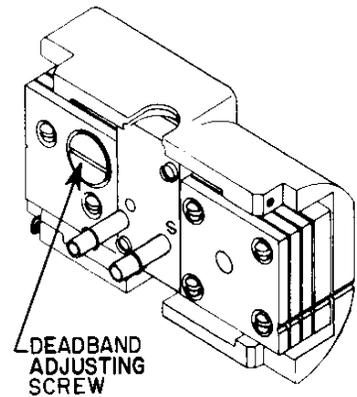

Fig. 3: Back View of T-4054
1. Remove the T-4054 from the mounting bracket and pull it away from the wall so the deadband adjusting screw is exposed (see Fig. 3).